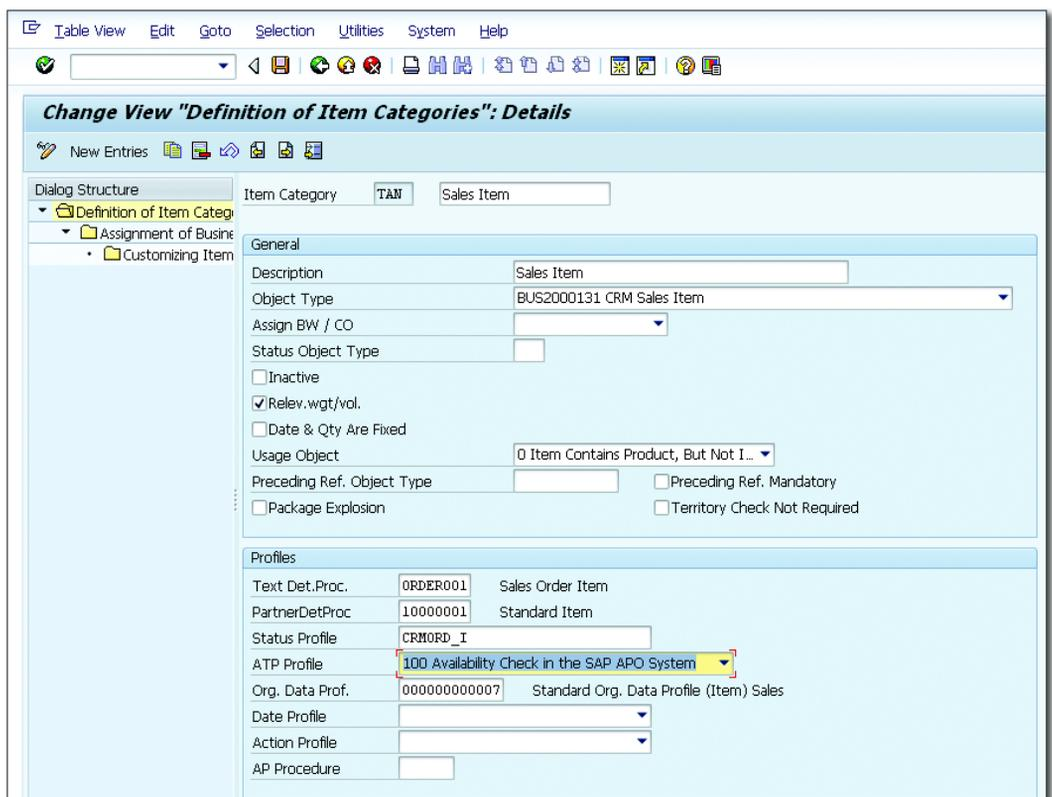

Figure 6.44 Assigning the ATP Profile to the Transaction Type
3. Configure the item category to assign the ATP profile configured in the preceding step (see Figure 6.44).